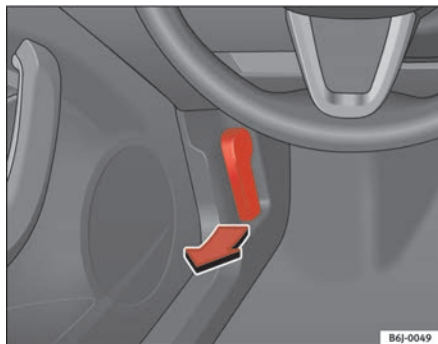

Fig. 123 Bonnet opening lever
- To release the bonnet, pull the lever under the dashboard ⇒ **fig. 123** in the direction indicated (arrow). The bonnet will be released by a spring action ⇒ .